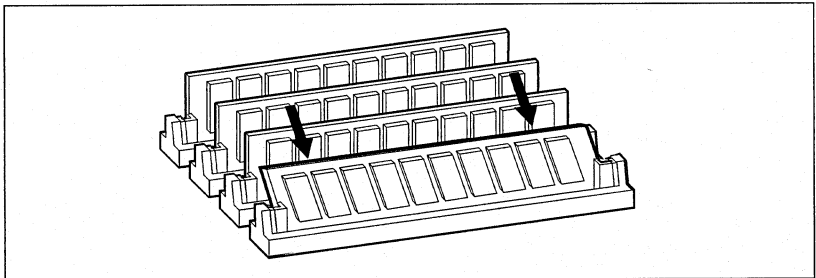

fig. 5-11
7. Firmly push the new memory module into the slot at a 45° angle (fig. 5-11).